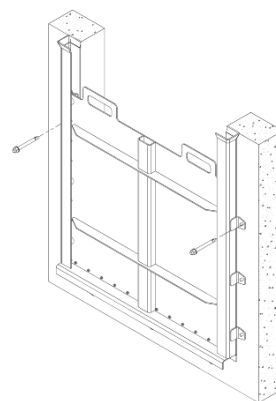

Figure 13
- Drill and install one anchor bolt on each side of the frame (See Figure 13). After installing the first anchor bolt, and prior to drilling the hole on the other side, make sure the frame is perfectly leveled